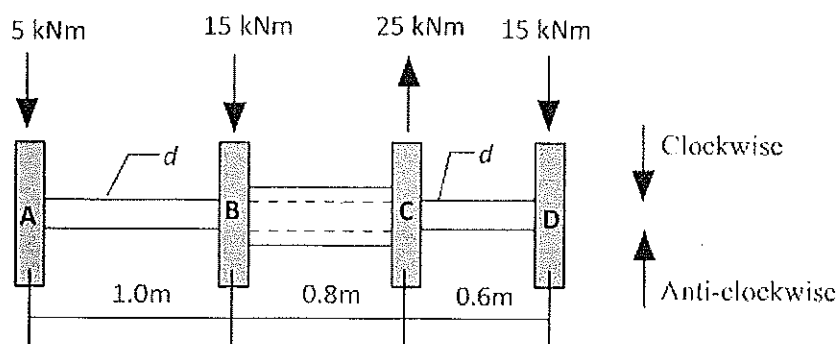

Figure Q5
- (b) The shaft shown in Figure Q5 consists of 3 sections. The section BC is hollow with inner and outer diameters of 80mm and 120 mm, respectively. The sections AB and CD are solid with diameter d . The shaft is loaded with torques as shown.